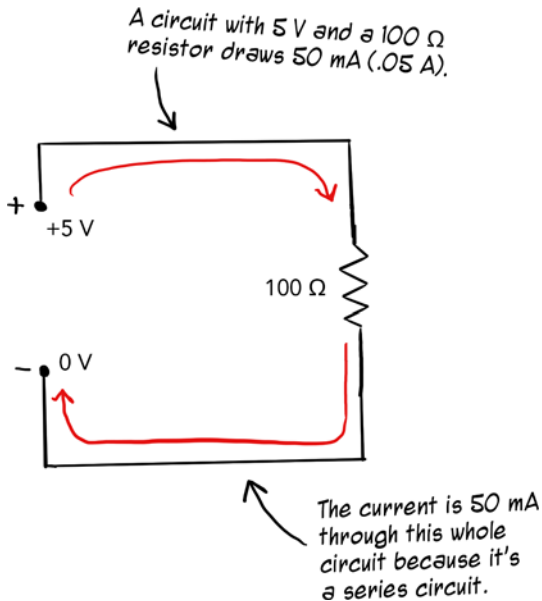

Figure 3.26 This series circuit draws 50 mA because $5 \text{ V} / 100 \text{ } \Omega = .05 \text{ A}$.
Let's break it down and put it back together. The 5 V series circuit with a 100 Ω resistor shown in figure 3.26 will draw 50 mA of current (I) because